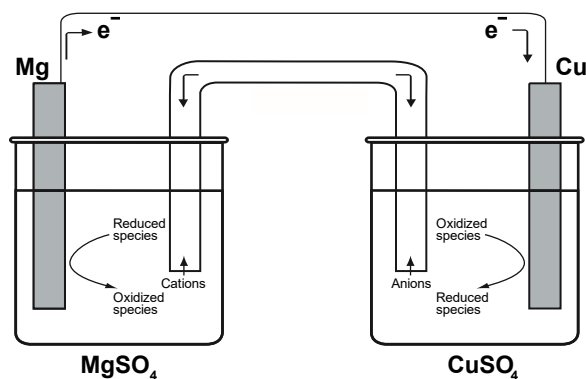

Figure 2. Galvanic Cell
See Figure 2 for the second experiment setup, a galvanic cell. In a galvanic cell, a spontaneous chemical reaction releases energy in the form of electricity (moving electrons).
7. Using arrows, label the parts of the galvanic cell in Figure 2 and answer questions *a–d*. Use this list of key words: electrodes, electrode storage/compartments, cathode, anode, and salt bridge.
8. Seek educational resources and provide an example of a replacement electrode if the copper electrode was not available in Figure 2
9. The materials to build your very own hand-held battery include: 2 small squares of filter paper, 1 M copper(II) sulfate solution, 1 M sodium sulfate solution, magnesium ribbon, and an LED with copper tape attached to the positive terminal. Again, the challenge is to build a hand-held battery by successfully arranging the components to light the LED. *Helpful tips:*